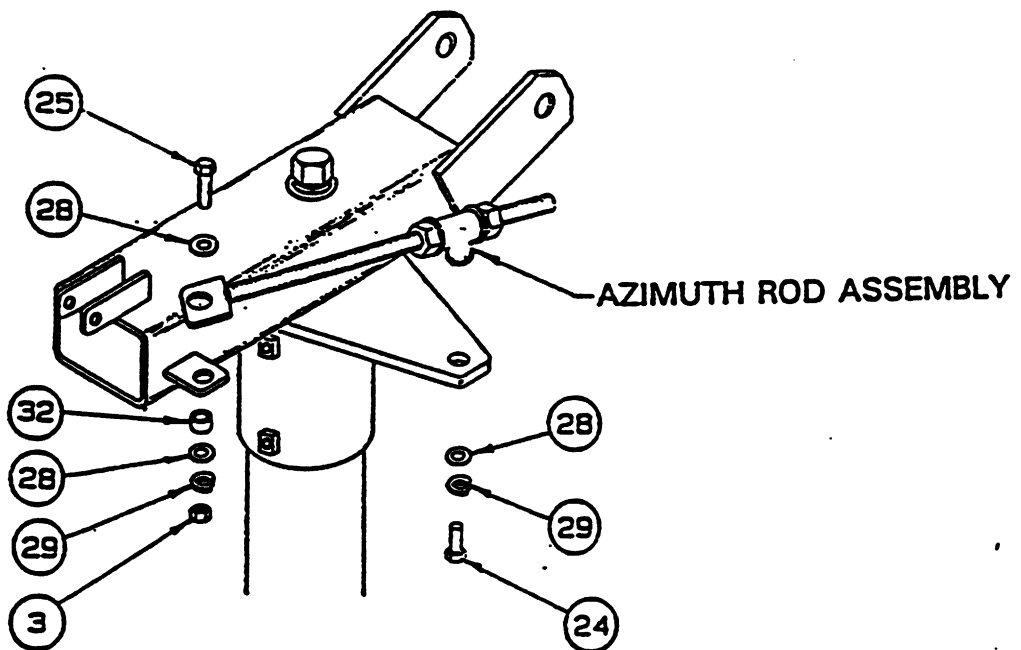

FIGURE 2.1-5
- 5) Attach the azimuth pointer to the holes in the side of the positioner using two (2) #10 x .50" self tapping screws, flatwashers and lockwashers. Reference Figure 2.1-5. NOTE: Tighten only until lock washers are flattened.